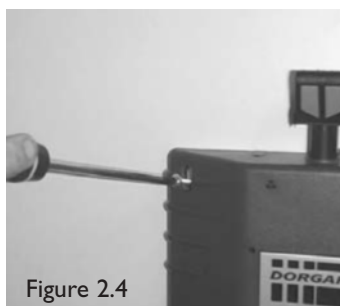

Figure 2.4
- 5) Using 2 of the 4 screws supplied fix Dorgard to your fire door; at points A and B on fitting template. This will allow Dorgard to be moved up and down slightly for correct positioning. When Dorgard is in the correct position fasten down all 4 screws. **(Fig 2.4)**